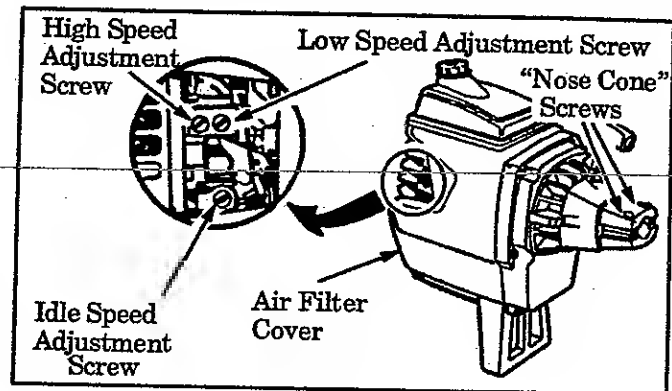

Figure 25
- a. Turn the low speed mixture screw and the high speed mixture screw (Figure 25) clockwise until they stop. *Do not turn the screws until they are tight as damage to the needle seats can occur.*
2. Adjust idle speed screw (Figure 25) until engine continues to run without stalling and without blade or trimmer head moving.
- h. If the engine does not accelerate smoothly, turn the low speed mixture screw (Figure 25) counterclockwise a small amount (no more than the width of the slot in the adjusting screw).
2. Turn the low speed mixture screw (Figure 25) slowly clockwise until the speed starts to drop. Note this position.
3. Turn high speed mixture screw (Figure 25) very slowly clockwise until engine speed is reduced.